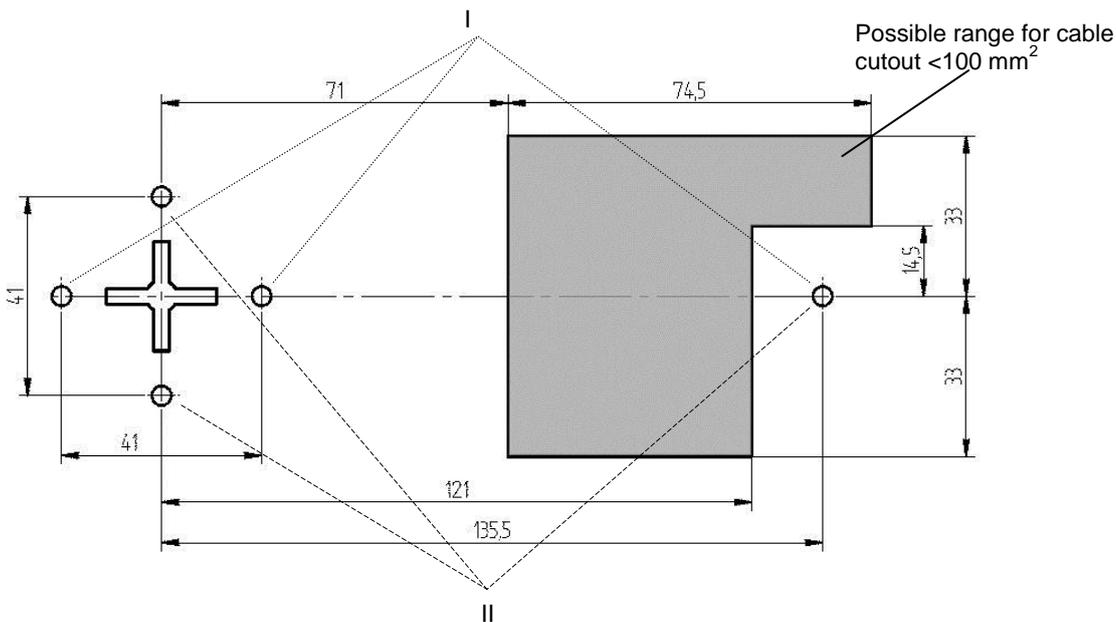

Figure 31: Holes in operating unit and possible range for cable passage
To install the input unit, first 3 holes with M4 thread must be drilled according to Figure 31 respectively. Two screw connection options have been given. They are shown in Figure 31 as I and II. Depending on the installation position, the keypad has to be rotated according to Table 11, if necessary.
The Combi B 30 base part (11) is now screwed onto the storage unit door using the three enclosed screws (9), as shown in Figure 31, (for the drill hole specification, see chapter 12.2). Ensure tidy cable routing: